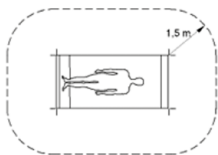

Fig. 2
- ⚠ Change the batteries outside of the patient environment (at least 1.5 metres from the patient or patient support pursuant to IEC 60601-1, see Fig. 2). Please let the device cool down before changing the battery.